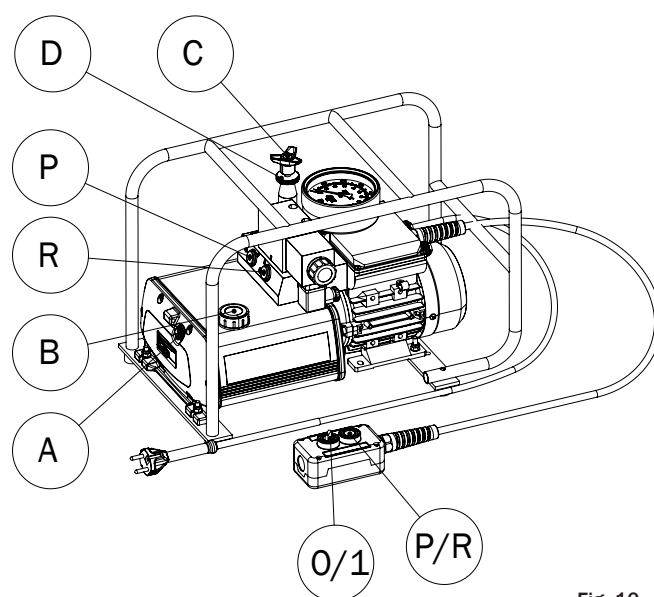

Fig. 10
- Unscrew the oil filler plug (Fig. 10, item B).
- Fill the oil reservoir through the filler hole until the oil level reach the centre of the level glass plug (fig. 10 pos. A).
To start the work cycle, turn the switch on the pendant control clock wise to position 1 (fig 10, pos. 0/1). Note! Because the remote control's built-in PLC needs a short time to start up, it takes about 4 seconds before pumping can begin after the switch is turned to position 1.
Push the green push button on the pendant control (fig 10, pos. P/R) to activate the tool in the positiv direction. When releasing the button, the pump will automatically change the direction of oil flow in the pump and activate the retracting direction of the tool. If the push button is not pressed in again, a built in time relay switch will turn off the electric motor after 10 seconds.
Adjustment of maximum pressure is done by turning the adjustment screw (fig. 10, pos. C).
NOTE! Before adjusting the pressure, unscrew the locking ring (fig. 10, pos D) by turning it counterclockwise until there are sufficient spacing between the locking ring and the adjustment valve housing.